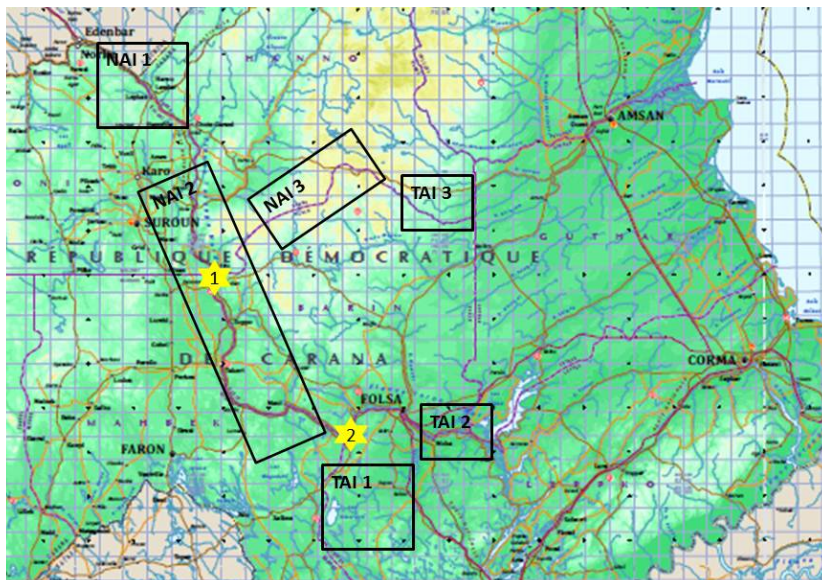

Figure 4
34. The DSO is a map overlay (trace) and a key tool to develop and communicate the Plan. It transfers the Commander's effects onto the map to draw out the necessary Areas of Interest (NAIs/TAIs) and Decision Points (DPs). This enables the planning staff to focus capability on those parts of the AOR where effect is needed. An example is at Figure 4 below.